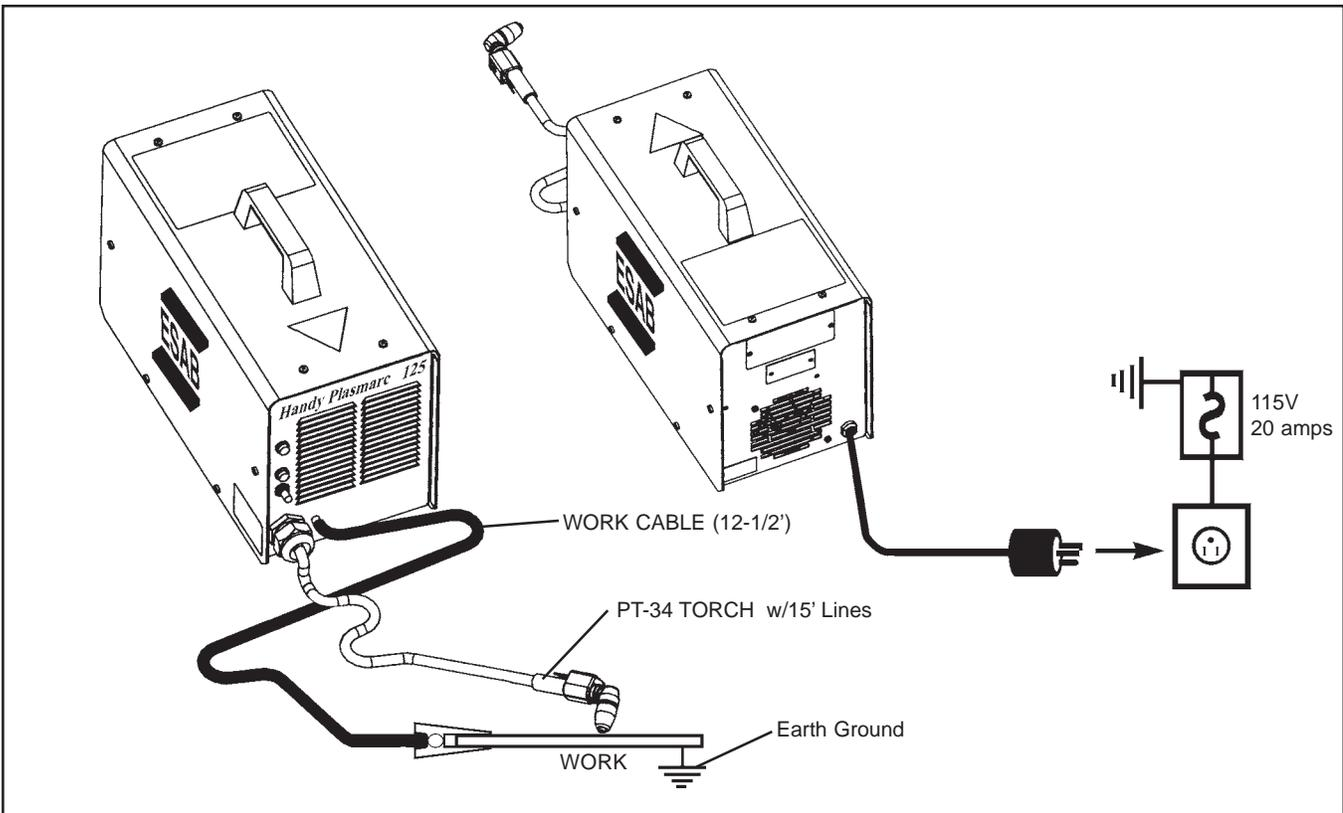

Fig. 3.1 - Handy Plasma 125 Interconnection Diagram
C. SECONDARY (OUTPUT) CONNECTIONS (Refer to Figure 3.1)
Clamp the work cable to the workpiece. Be sure the workpiece is connected to an approved earth ground with a properly sized ground cable. (See figure 3.1.)